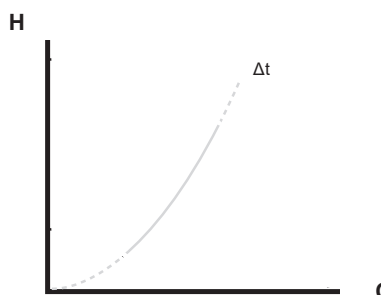

Fig. 51 Temperature difference
- Maintains constant temperature difference between the pump and an external sensor, see Fig. 51.